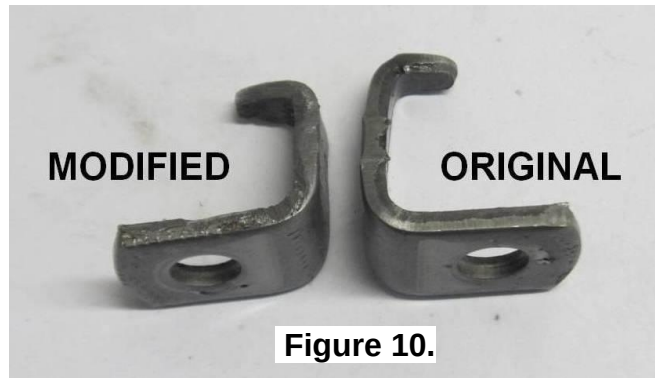

Figure 10.
- ☐ Finish the tab width and tail length as necessary to ensure it does not come in contact with the bearing or seal housing. The modified locking tab should look as per Fig. 10.